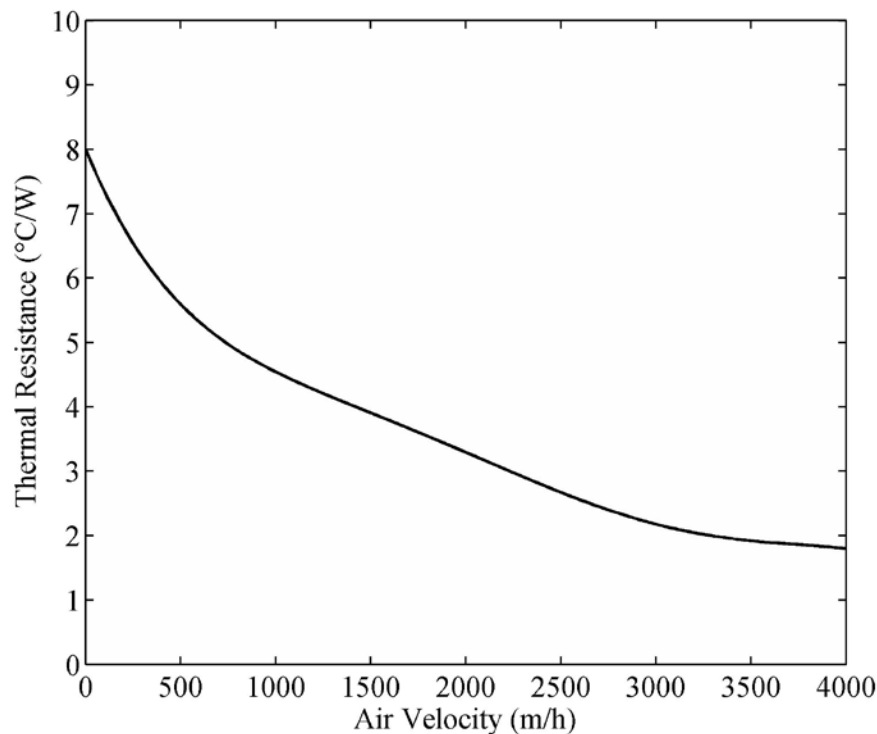

Figure 1 Thermal resistance of a heat sink – fan combination.
- c. The junction to case thermal resistance ( $R_{jc}$ ) of a 4x4 cm QFP package is 19 °C/W. If the package contains a silicon chip dissipating 5 W, what is the volume flow rate of the fan required to maintain the chip within safe operating conditions? Use the data in Figure 1 (overleaf) and detail the assumptions you have made.